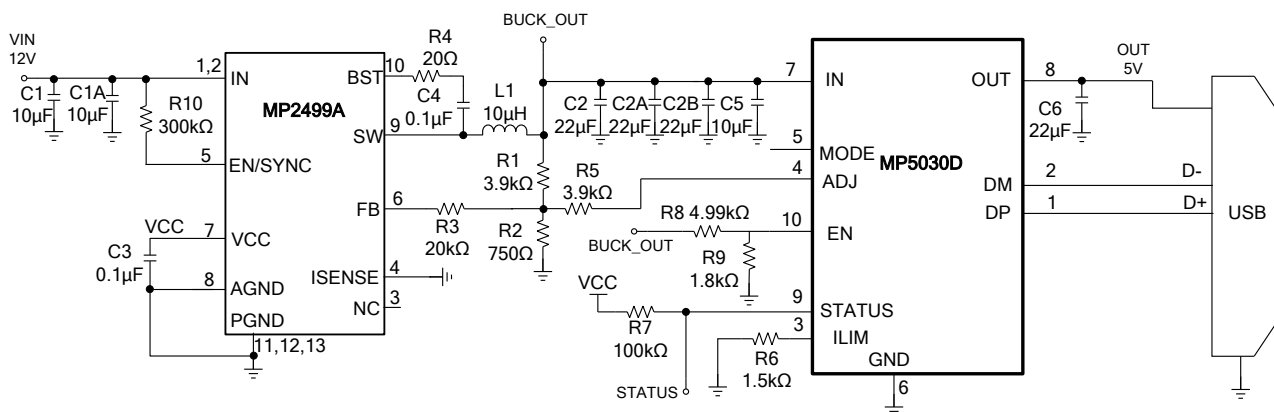

Figure 7: MP5030D + MP2499A for CLA Car Charger, DCP Mode ⁽¹⁰⁾
9) The recommended layout is based on the Typical Application Circuit shown in Figure 7.